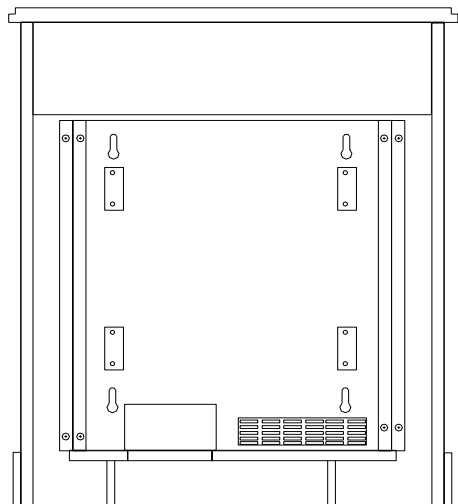

Figure 7
With four (4) wood screws provided secure brackets to rear of mantel. See Figure 7, page 12.